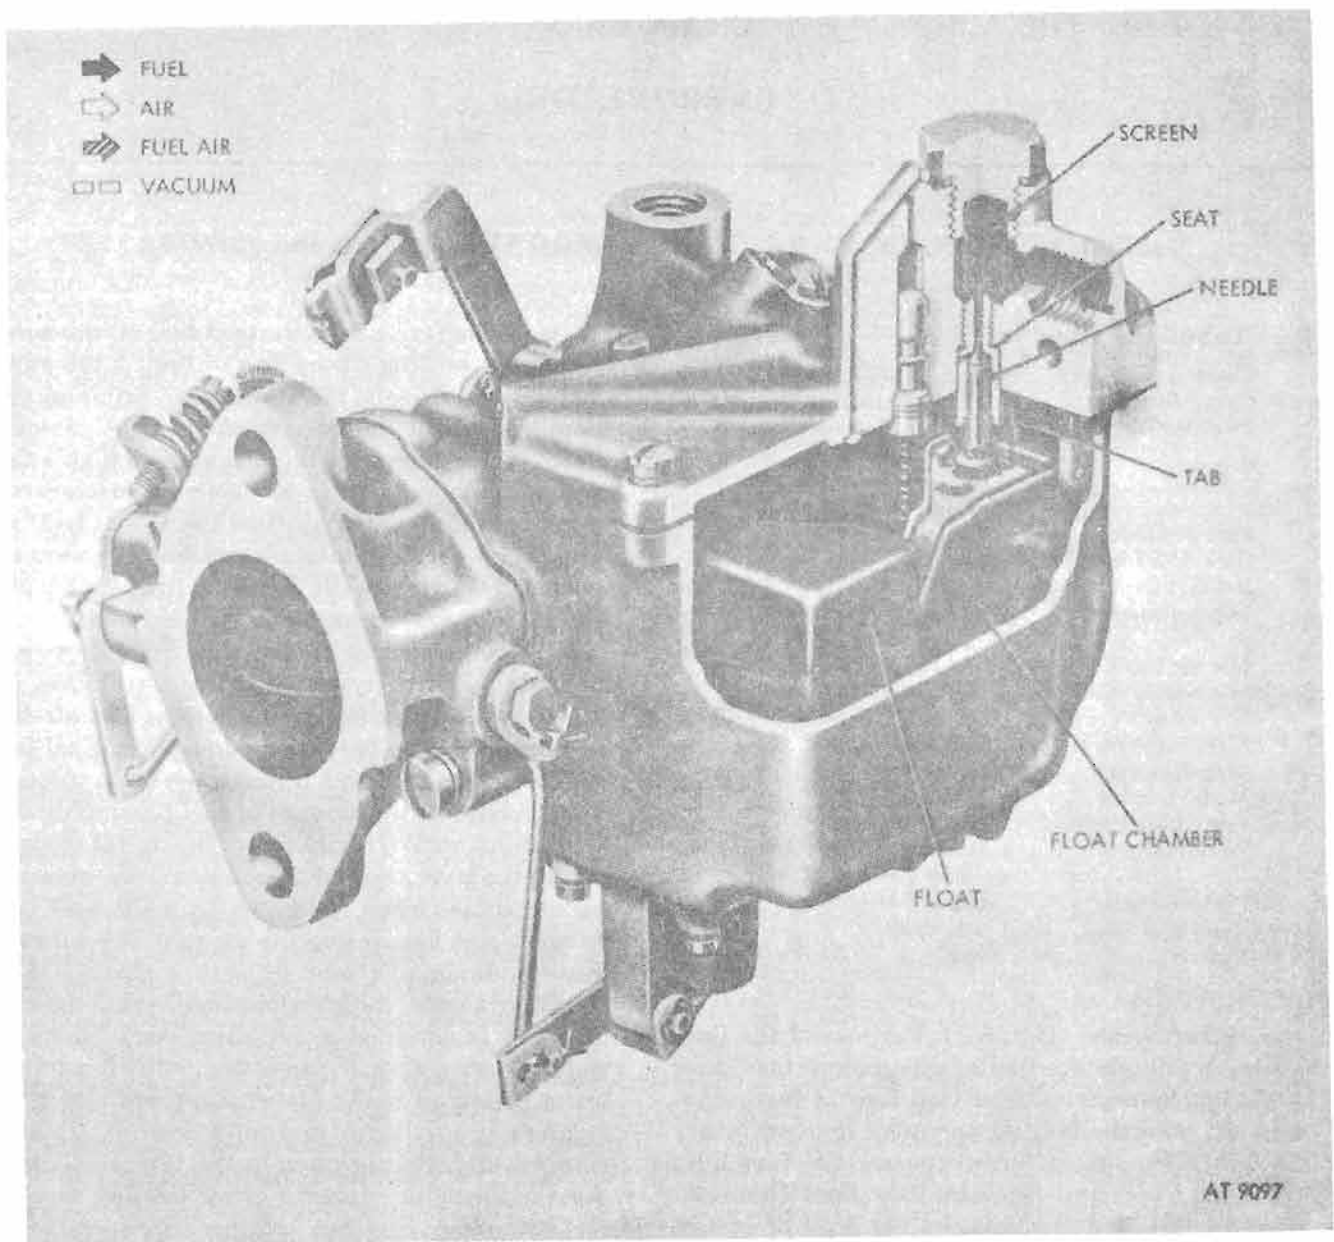

Figure 5-1. Float system.
a. *Float System* (fig. 5-1). Purpose of the float system is to maintain fuel at a predetermined level in the float chamber. A regulated flow of fuel under pressure from the fuel pump enters the carburetor through a fine mesh screen, passes the fuel inlet needle and seat and flows into the float chamber. The fuel flow is determined by the level of fuel in the float chamber. As the level goes down, the carburetor float goes down, thereby allowing the needle to unseat and fuel to enter. As the fuel level rises, the float rises, raising the needle valve which reduces the fuel flow into the float chamber. When